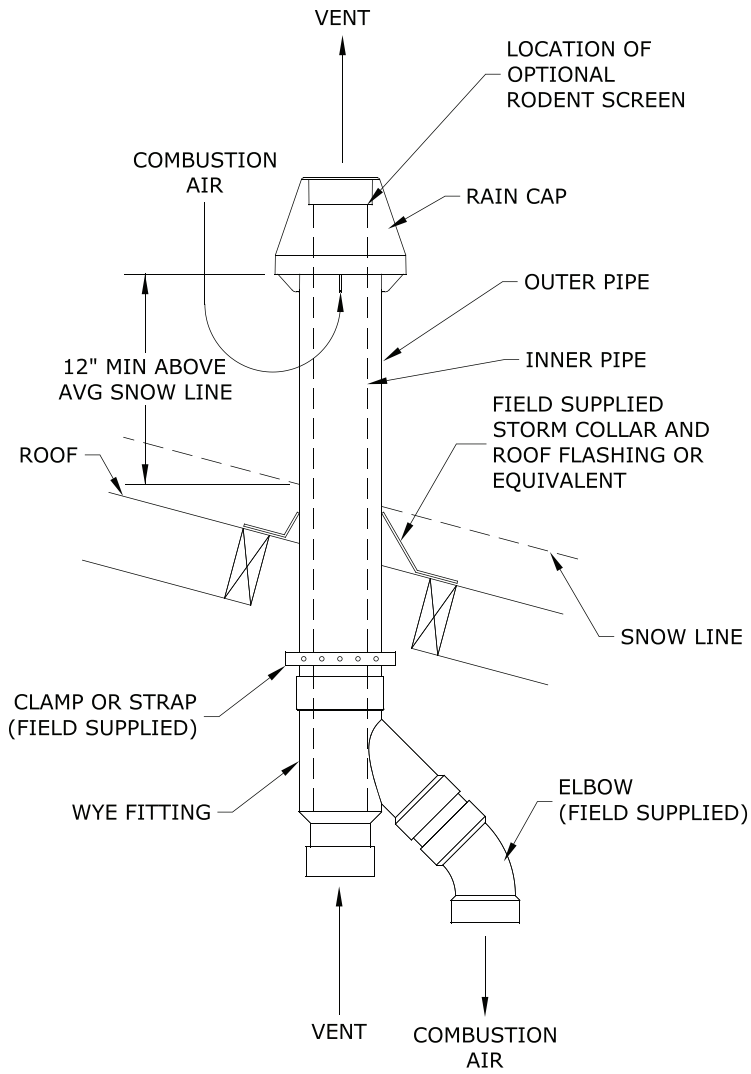

Figure 7.34: Installation of IPEX and DiversiTech Concentric Terminal Through Roof
7. Installation of IPEX FGV or DiversiTech CVENT Concentric Vent Terminal (Terminal Options D,E,I & J) - This terminal may be used for either horizontal or vertical venting. See Figure 7.33 for horizontal installation or Figure 7.34 for vertical installation. When PVC is used for venting, a 30” CPVC straight section and CPVC elbow must be used prior to connection of the vent system to this terminal. If the vent system is too short to permit this, use the IPEX FGV CPVC terminal: